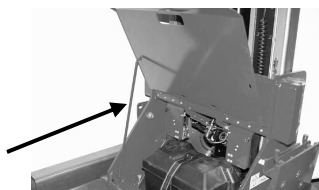

Figure 3
3. Open the front cover and prop it up with the support rod. See Figure 3.